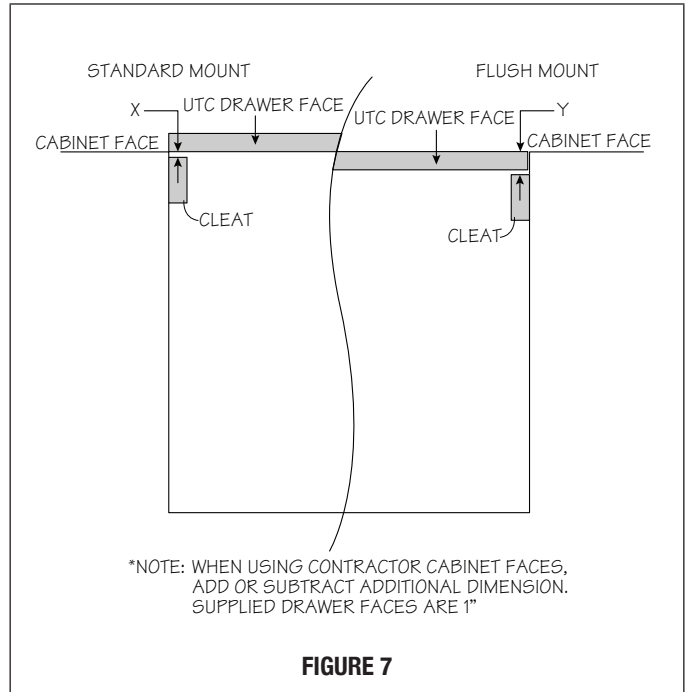

**FIGURE 5**
5. Once the overall height has been confirmed, measure the distance from the top surface of the pedestal unit to the floor. See Figure 5. This measurement will be needed for the installation of the wooden mounting cleats.